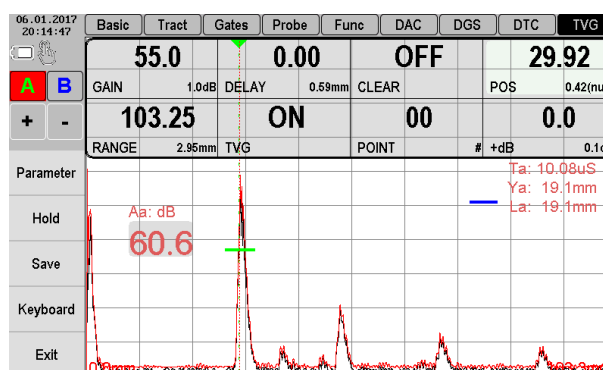

Figure 2.44 – Selection of the first TVG point
8. Select the point number (00 by default) for the first echo and set its position («POS» parameter) on the signal top on A-scan (Figure 2.44).